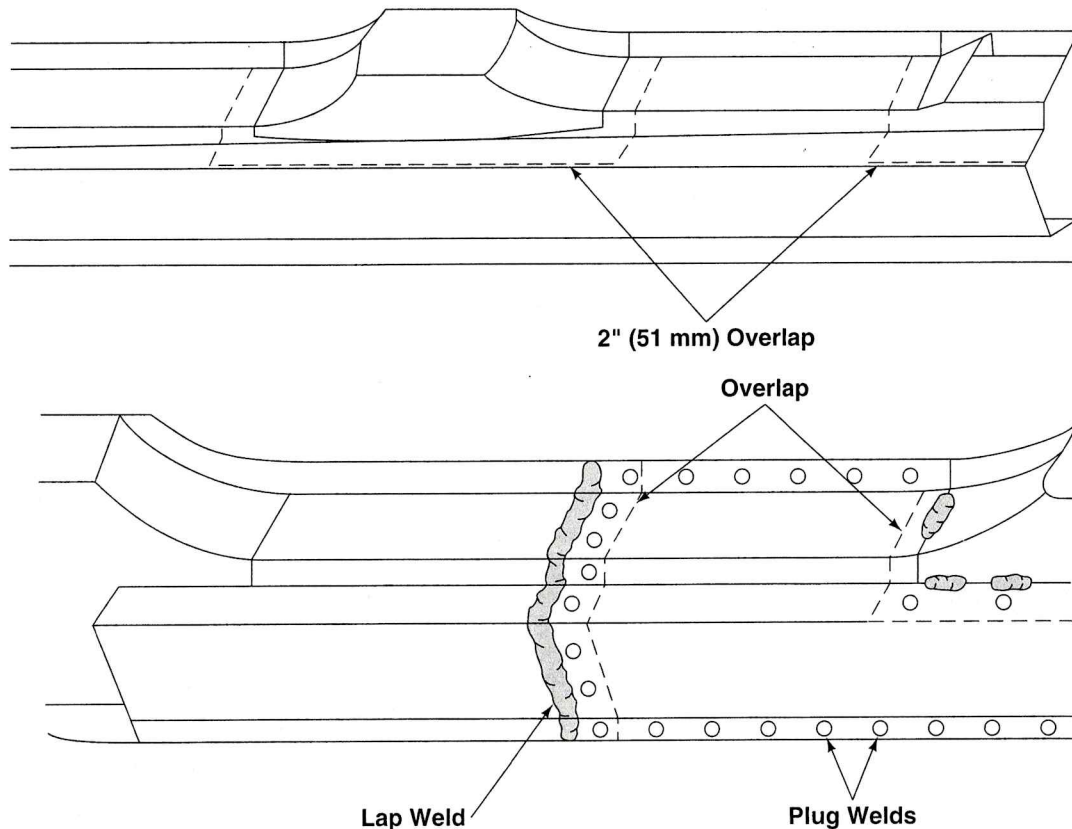

Figure 22-19 Note the typical cut and weld locations for replacing a rocker panel.
4. Cut the replacement panel to allow for a 1-inch (25-mm) overlap of the pillar bases and panel ends, Figure 22-19.